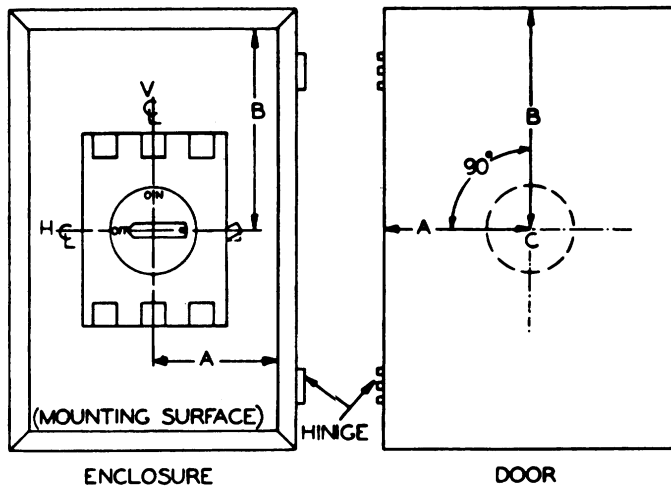

Figure 10.
The distance from the vertical center line of the protective device to the enclosure wall (with hinges) has a minimum distance A, illustrated in Figure 10. Distance A must be equal to or greater than one-half the length of the enclosure door from the hinged side to the latch side. Preferably, the hole should be located toward the latch side for interlock leverage.
A. Locate the center of the circle for the integral handle indication ring on the enclosure door, referring to Figure 10 and the following steps:
2. Assuming the mounting surface of the enclosure and the closed door to be parallel, transcribe dimensions A and B to the enclosure door per Figure 10.